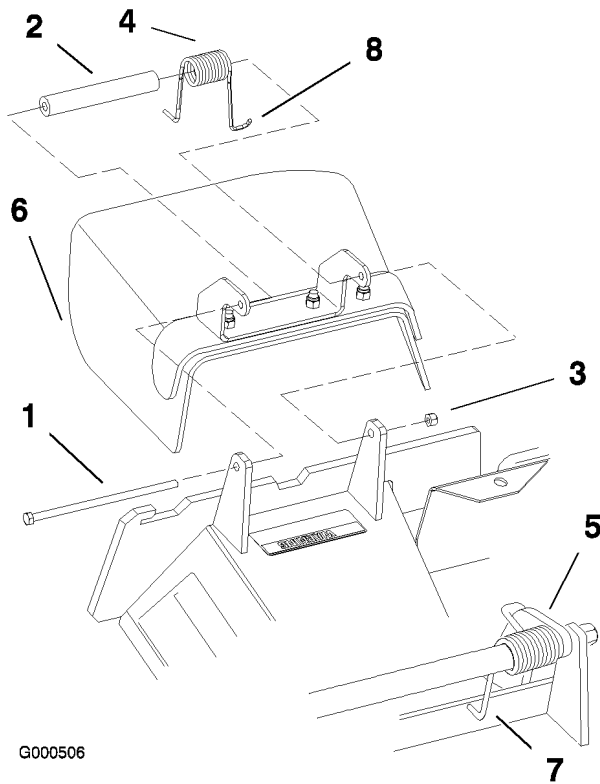

Figure 70
(Figure 70). Remove damaged or worn grass deflector.
Note: Make sure the L end of spring is installed behind deck edge before installing the bolt as shown in Figure 70.
- Install bolt and nut. Place the J hook end of spring around grass deflector (Figure 70).